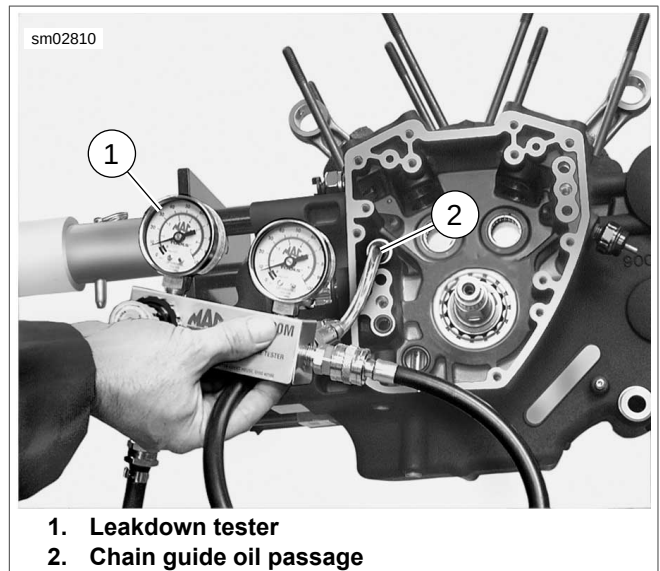

Figure 3-171. Leakdown Test
15. See Figure 3-171. Remove screen and O-ring from chain guide oil passage (2). Perform leakdown test to verify proper assembly.
- d. Apply a light coat of SCREAMIN' EAGLE ASSEMBLY LUBE to nipple. Insert nipple into chain guide oil passage (2).